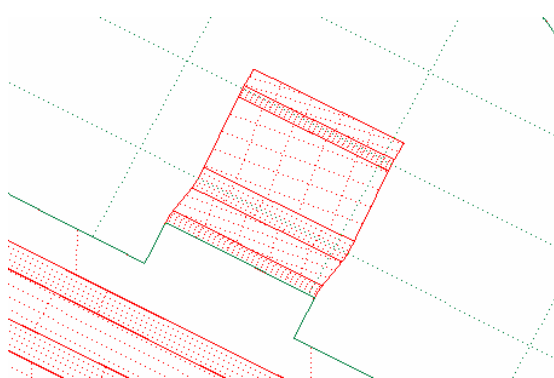

Figure 54 Flange surfaces
4. Use rotational and zooming tools to zoom out the region as illustrated in Figure 54.